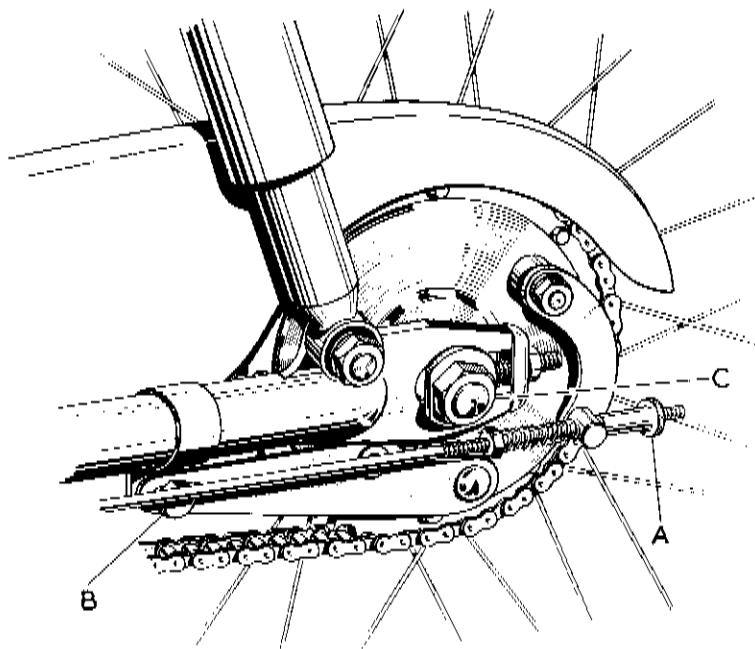

Fig. D31.
Take off the brake rod adjusting nut (A) Fig. D31 and remove the torque arm bolt (B). Disconnect the speedometer cable by unscrewing the union nut at the end of the cable. The inner cable can then be lifted out of the gearbox drive.
Unscrew the spindle nuts (C) Fig. D31 and pull the wheel out of the fork ends, at the same time freeing the brake rod from the swivel pin on the lever. Tilt the machine over slightly towards the left hand side and remove the wheel from the right-hand side.